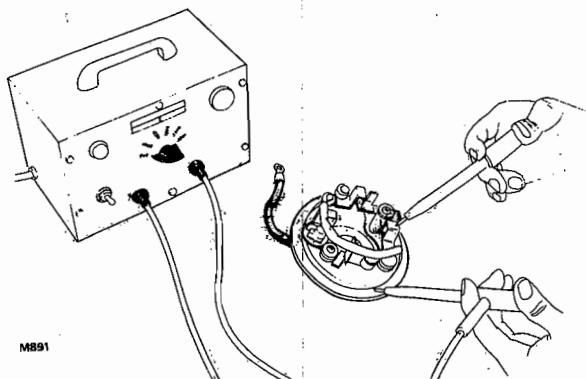

FIG. 5. CHECKING BRUSH GEAR INSULATION
8. Check the brush gear insulation using a flash tester set a 500V, see Fig. 5, and check the following: